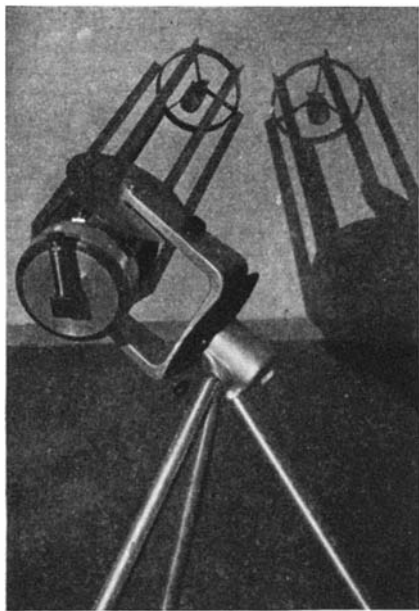

Figure 1: Metal mirrored Greg
**N**OW and then someone makes a reflector of the Gregorian type, and one such telescope (Figure 1) was made by Paul A. Chamberlain, 8054 Honore St., Chicago, Ill., who writes:
"My mounting is a portable type which I built from discarded machine parts, excepting the tube which I rolled from 20-gage iron. I wanted to get away from the necessity of following the eyepiece into so many inconvenient and almost impossible positions, so I fitted it into the journal of the declination axis. You might call it a portable mounting with a fixed eyepiece." [Note that all of the telescopes in Figures 1 to 6 are portable.—Ed.]